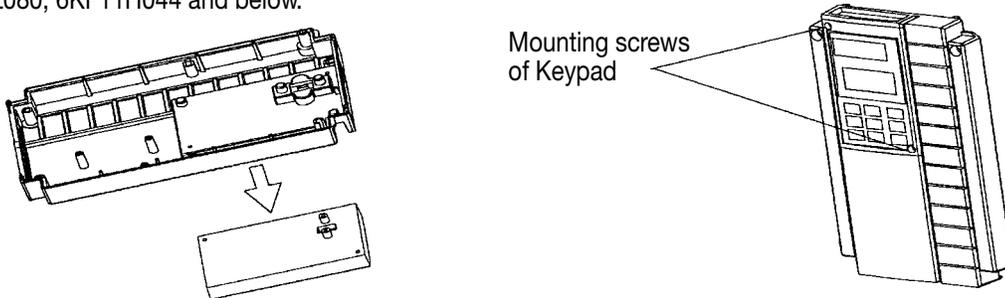

Fig.1-3-3 Removing the Keypad
After removing the cover as explained in (1), loosen the keypad mounting screws and remove as shown in Figure 1.3.3 for drives 6KF11L080, 6KF11H044 and below.